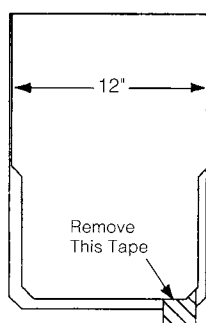

Figure 17-18: Shingle Ridge®.
5. Before nailing, be sure to remove the protective tape from the sealant between the cap's two layers (Figure 17-18).